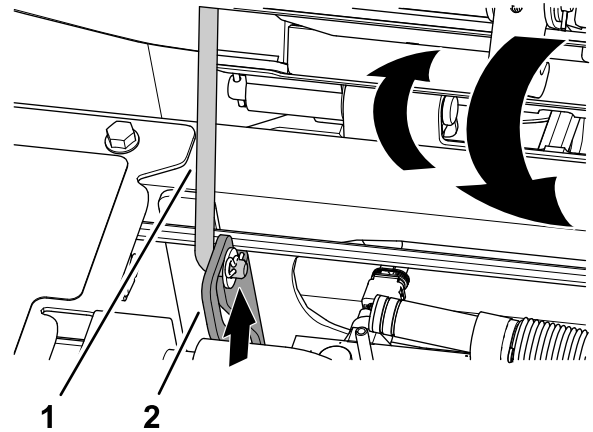

Figure 99
1. Rotate the seat slightly, and lift the prop rod out of the dent of the seat support slot (Figure 99).